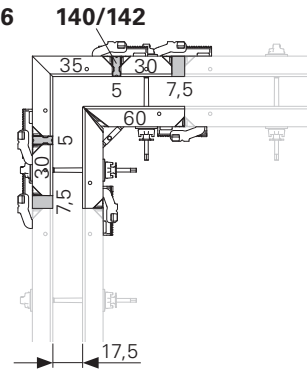

Fig. D2.02
- Wall thickness 17.5: Fig. D2.02 + D1.06a/c + D2.06b/d